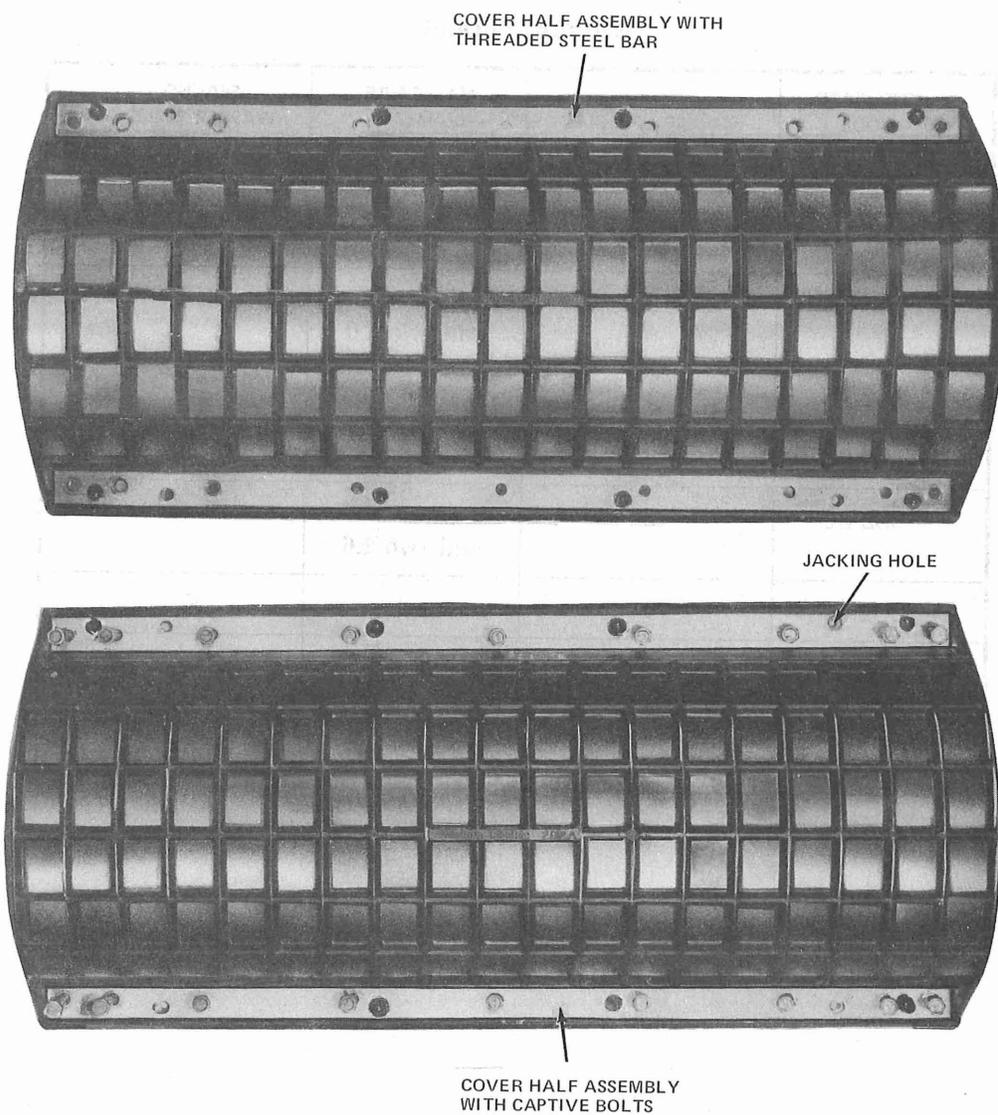

Fig. 5—Cover
2.03 The component ordering system allows ordering necessary piece parts separately, as required. Tables H and I list the cover and end plate codes, respectively. Figure 5 illustrates the covers and Fig. 6, 7, and 8 illustrate the end plates. Figure